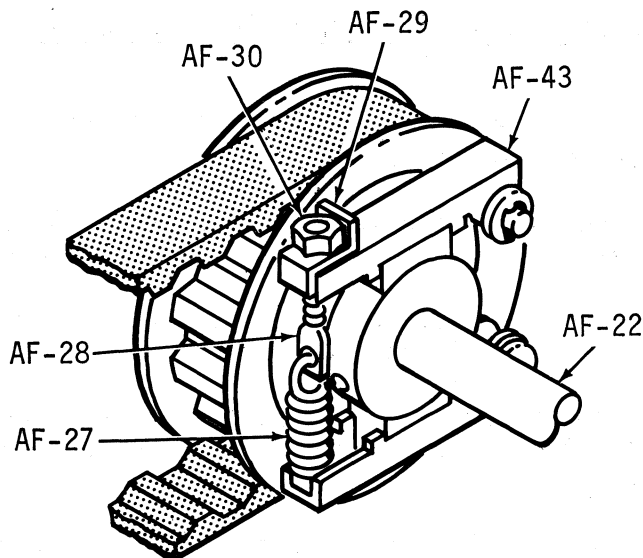

Figure 5-7. TORQUE LIMITING DEVICE (BRAKE)
2. Using a 5.5 mm (7/32-in.) wrench, turn nut (AF-30) on small threaded shaft (AF-28) (holding spring (AF-27) until tension is off the spring (See Figure 5-7).